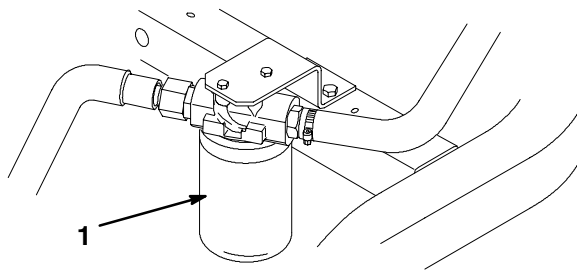

Figure 38
1. Clean the area around the filter mounting area (Fig. 38). Place a drain pan under the filter and remove the filter.